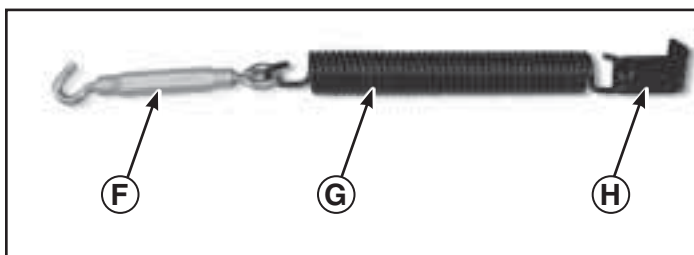

Figure 15
5. Assemble lift assist parts. Attach spring (G, Figure 15) to turnbuckle (F) and axle clamp (H).